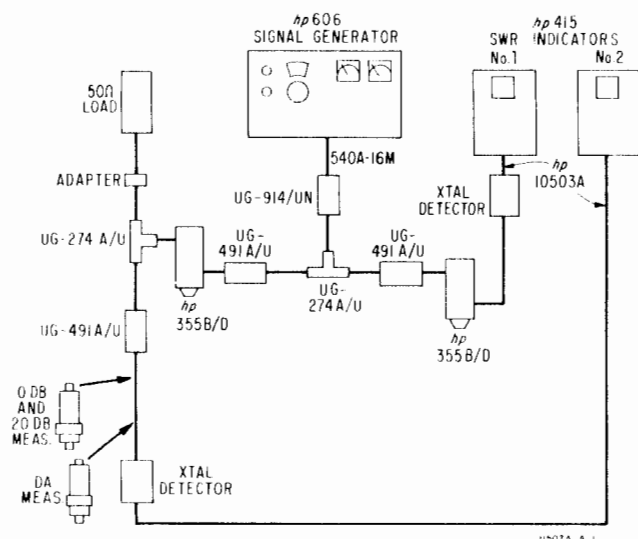

Figure 2. Insertion Loss Setup Diagram
c. Connect test setup as shown in Figure 2.
h. Remove the 50-ohm load and its associated UG-274A/U and UG-491A/U connectors from the circuit. Set the termination to 0 dB and connect between attenuator and the termination detector as indicated in Figure 2.
f. Set the termination to DA and insert it as indicated in Figure 2 (output end toward generator). Leave the 50-ohm load connected.